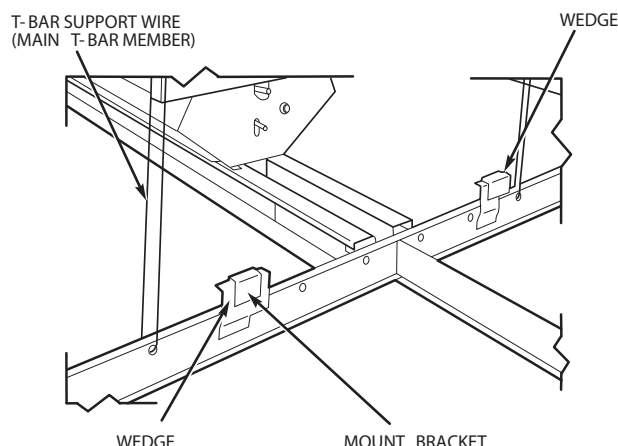

Fig. 15 — T-Bar Mounting Details
7. Raise unit above ceiling and lower into position. Engage T-bar mounting bracket tabs securely over main T-bars. Do not rest unit diffusers on T-bar flanges. Install 2 locking wedges on each bracket between bracket and T-bar. See Fig. 15. It may be desirable to crimp the bracket wedge assembly with pliers to ensure tightness.